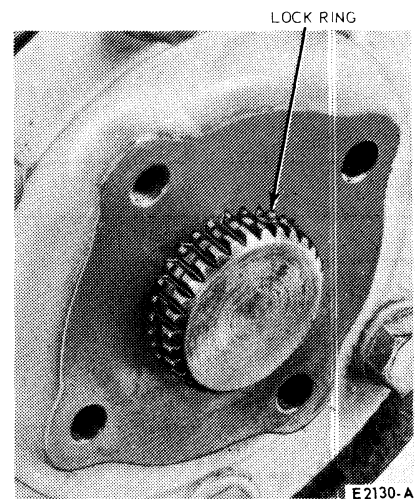

FIG. 4 Access to Lock Ring
- Remove the retaining lock ring, as shown in Fig. 4.